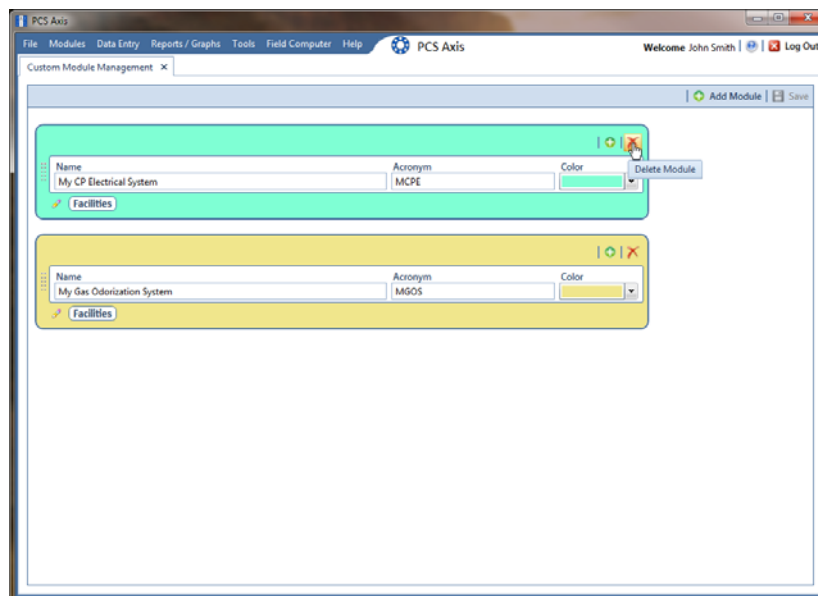

Figure 3-78. Custom Module Management
- 3 Click the  delete button for the user defined module you want to delete (Figure 3-78).